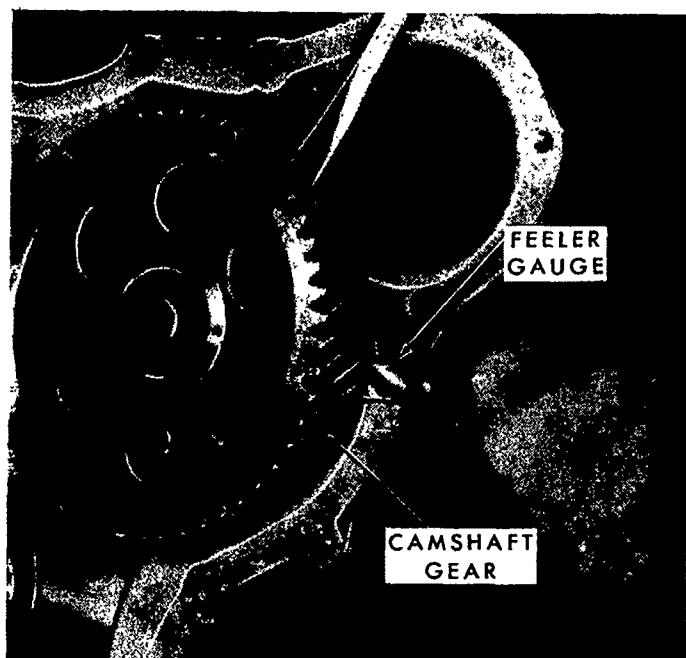

Figure 75
6. Pry the camshaft gear away from the cylinder block with a screwdriver. Check the clearance between the hub of the camshaft gear and the thrust plate with a dial indicator against the camshaft bolt or with a feeler gauge, Figure 75. If the clearance exceeds the specified limits, page 63, install a new thrust plate before reassembly.